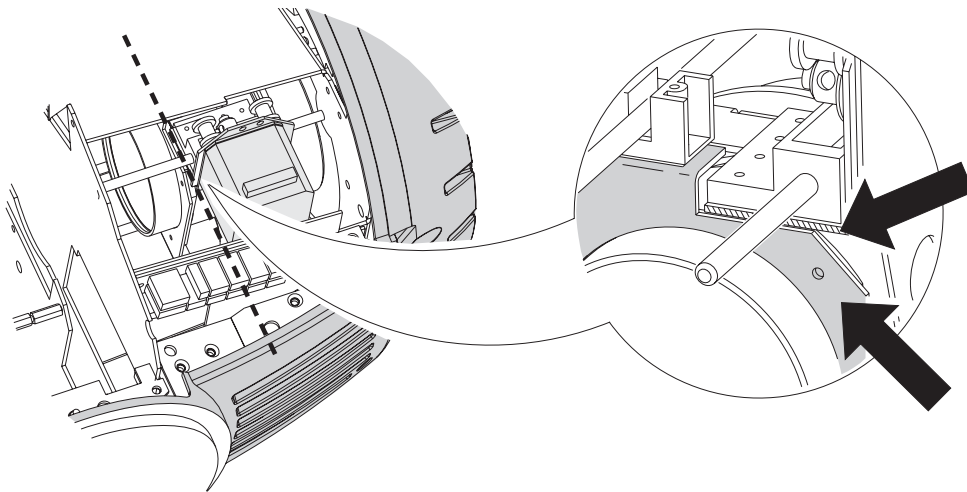

Figure 6: Zoom calibration point
- 2 To calibrate zoom, first remove the bottom head cover. Select `UTIL→CAL→ZDOF` and press [Enter]. Adjust the offset until the face of the zoom lens plate is flush with the back edge of the focus plate (Figure 6). Press [Enter] to save the setting. Replace the bottom head cover.